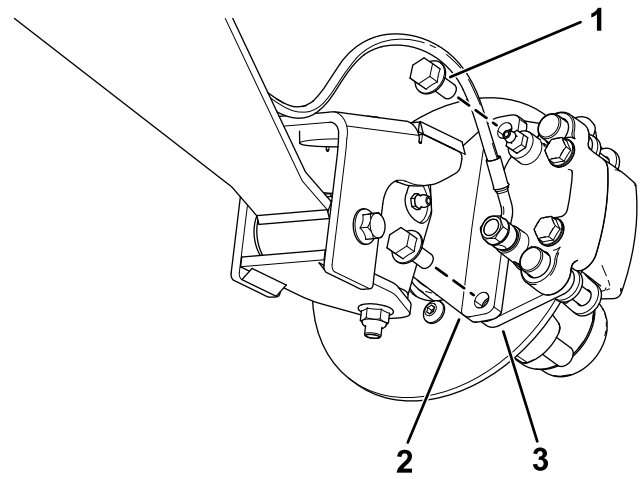
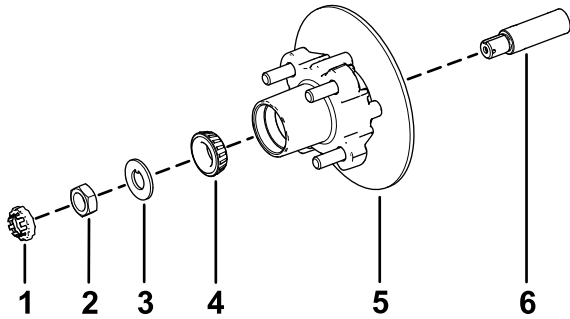

Figure 28
Figure 32
3. Remove the flange-head bolts (3/8 x 3/4 inch) that secure the bracket for the brake assembly to the spindle and separate the brake from the spindle (Figure 28).
1. Apply a light coat of the specified grease to the spindle (Figure 32).
2. Assemble the hub and rotor onto the spindle with the rotor inboard (Figure 32).
3. Assemble the outboard bearing onto the spindle and seat the bearing to the outboard race (Figure 32).
4. Assemble the tab washer onto the spindle (Figure 32).
5. Thread the spindle nut onto the spindle and tighten the nut to 15 N·m (11 ft-lb), while rotating the hub to seat the bearing (Figure 32).
2. Align the brake pads to either side of the rotor (Figure 28) and the holes in the caliper bracket with the holes in the brake mount of the spindle frame (Figure 32).
3. Secure the caliper bracket to the spindle frame (Figure 28) using the 2 flange-head bolts (3/8 x 3/4 inch).